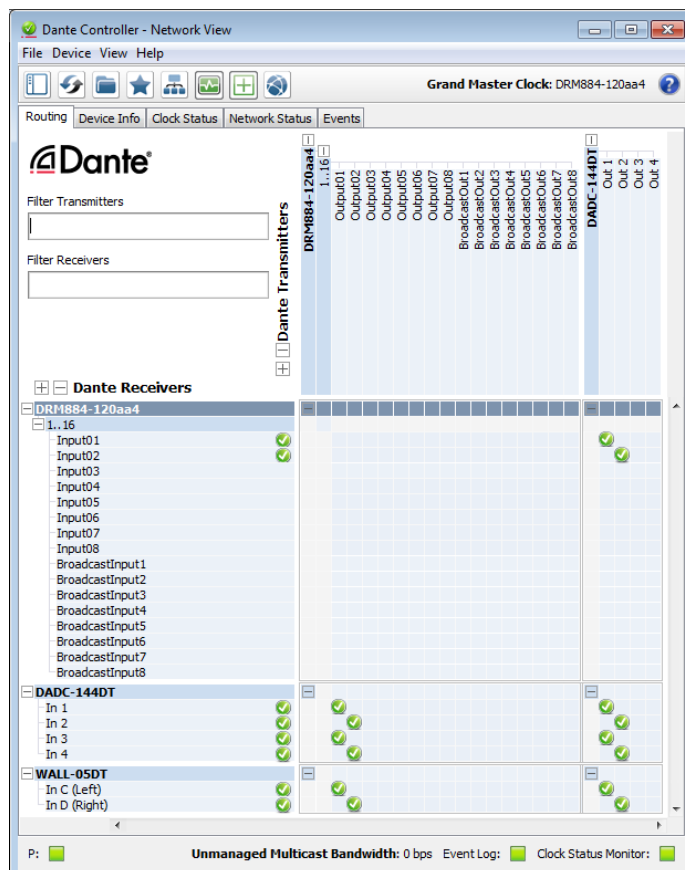

Fig. 10 Dante routing
- 1) Under “Routing” in the window “Network View”, click to open the transmitting channels of the desired device under “Dante Transmitters” and the receiving channels of the connection partner desired under “Dante Receivers” (refer to fig. 10).